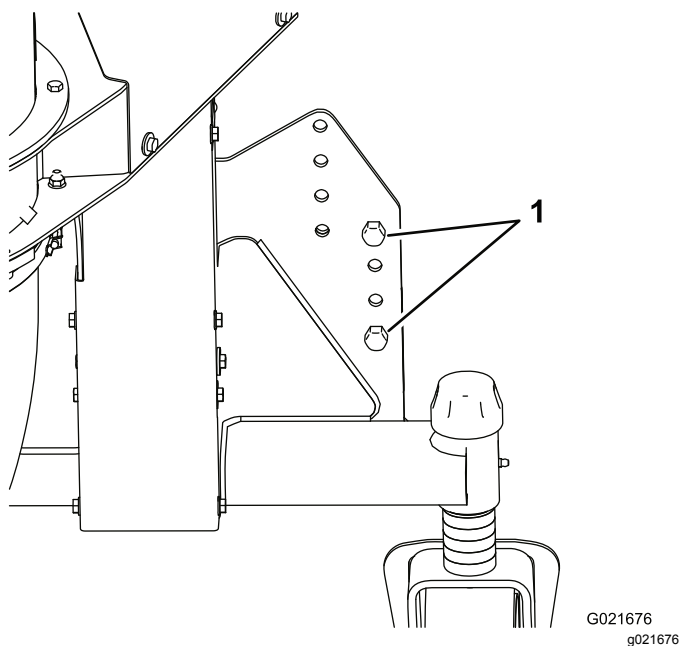

Figure 7
9. Slide the crate away from the blower and lower the blower until the castor wheels touch the floor keeping the strap tight (Figure 7).